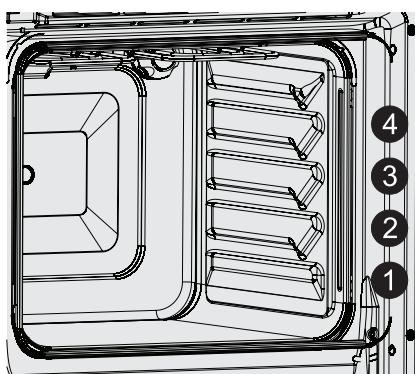
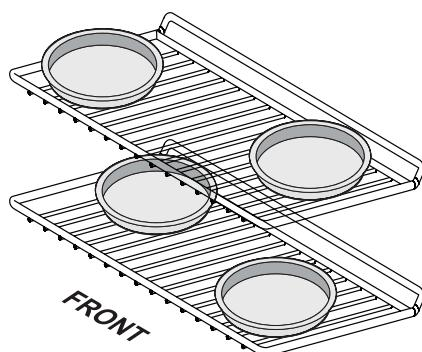

Figure 20: Oven rack positions
Figure 22: Baking with multiple levels & racks
- For best results when baking with one oven rack, place racks in positions 2 or 3 (Figure 20).
- For best results when baking cakes or cookies using two oven racks, place racks in positions 1 and 3 (Figure 20) and place pans as shown in Figure 22.